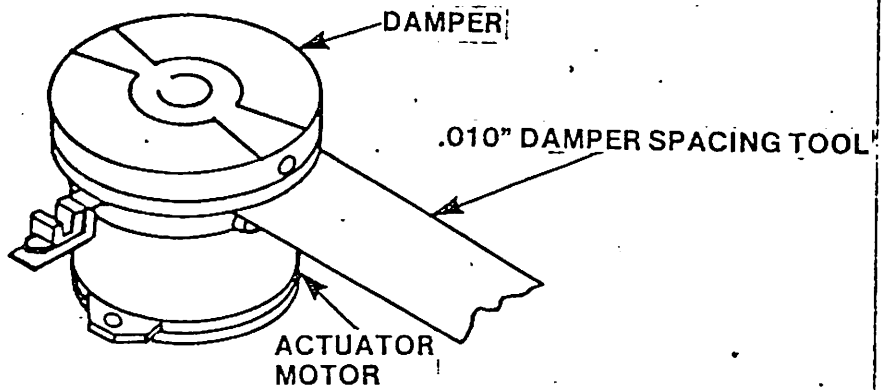

FIGURE 3. DAMPER INSTALLATION
3. Place damper spacing tool (or 0.01-inch feeler gage) between damper and track 000 clamp (figure 3). Slide damper up against tool and tighten Allen screw.